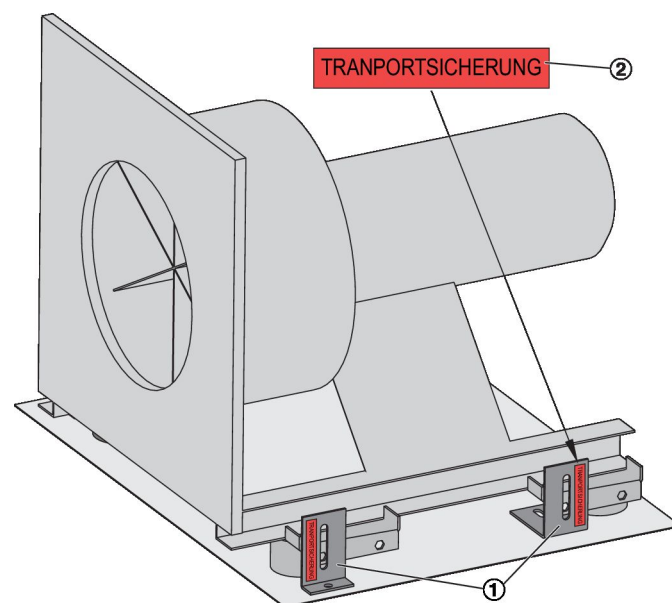

Fig. 10: Transport protection brackets
1. ▶ Remove the brackets (Fig. 10 /1) that are marked with a red sticker (Fig. 10 /2).